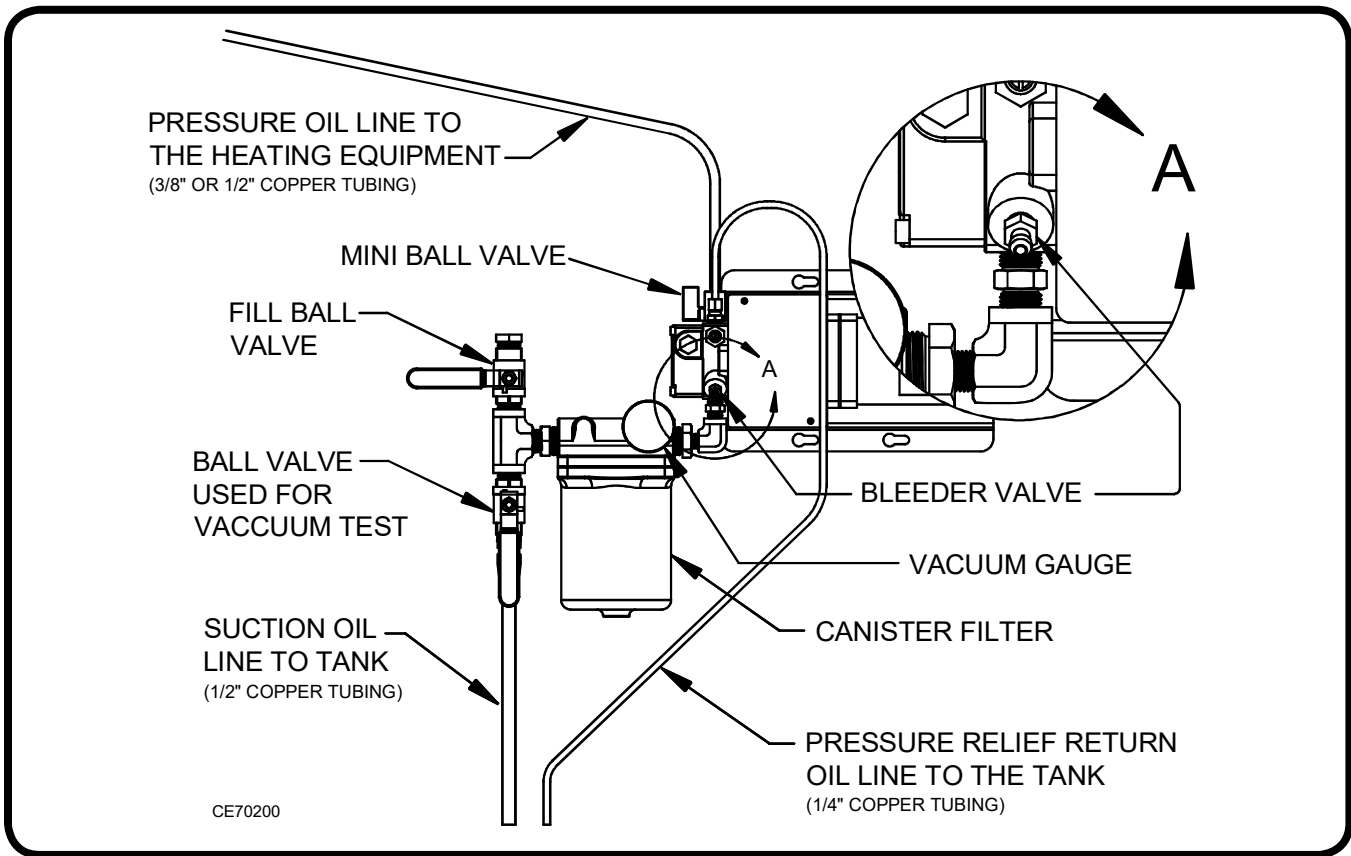

Figure 17: Typical Metering Pump Installation (Standard Mounting on a Wall)
- (1) Refer to Figure 17 for a typical metering pump installation (standard mounting on a wall).
- (2) Use appropriate hardware to mount the metering pump system to the wall.
- (3) Keep the pump assembly as close to the tank as possible.